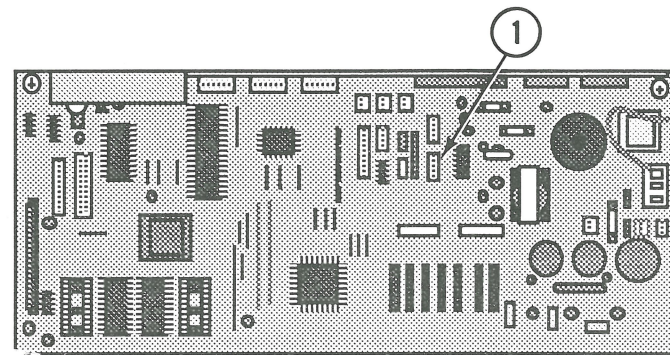

FIGURE 8
2. Disconnect the paper-out sensor cable from main board connector CN9 (Figure 8, #1).